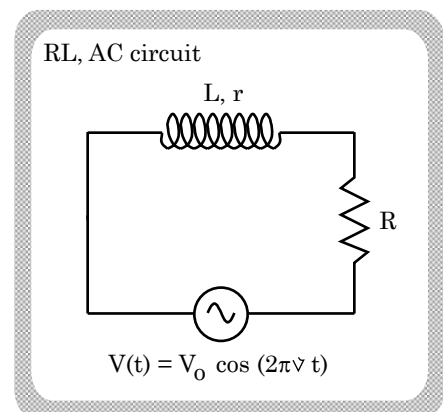

FIGURE 17.27
2.) Consider the *RL circuit* shown in Figure 17.27.